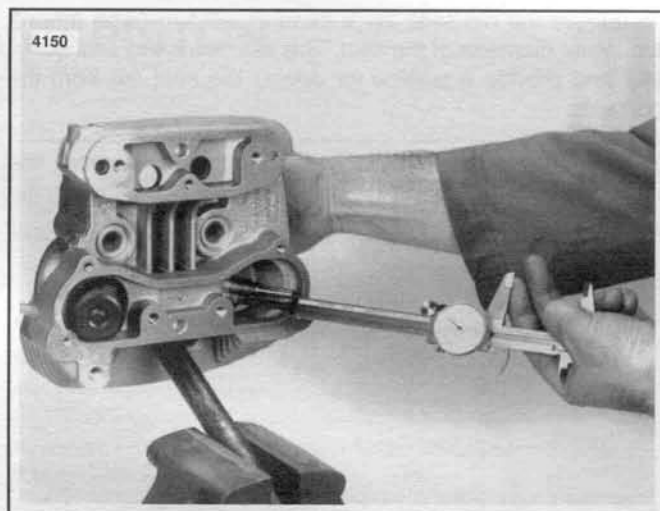

Figure 3-29. Measure Valve Stem Protrusion
6. See Figure 3-29. Measure the valve stem protrusion from the cylinder head to the top of the stem. If valve stem protrudes more than 2.034 in. (51.66 mm), the valve or seat must be replaced.
7. See Figure 3-29. If valve stem protrusion is within the proper range, the valves and seats are ready for inspection.